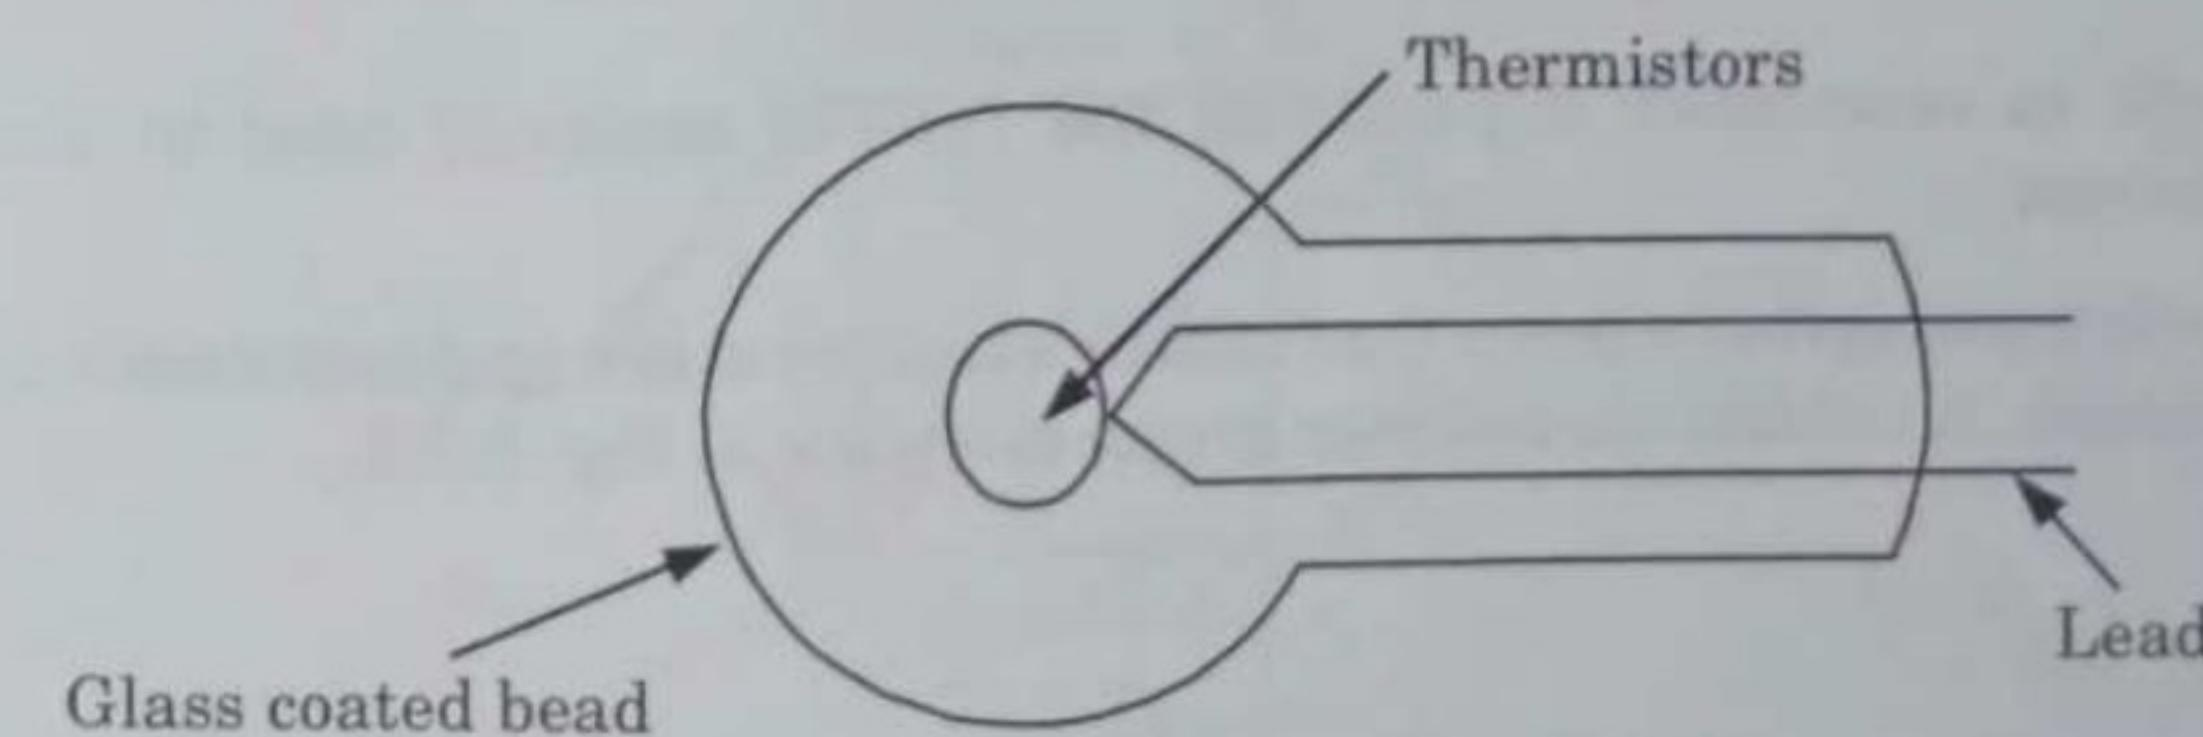

Fig. 2.1.1. Schematic of a thermistor.
7. Thermistors are available in the form of a bead (pressed disc), probe or chip. Fig. 2.1.1 shows the construction of a bead type thermistor.